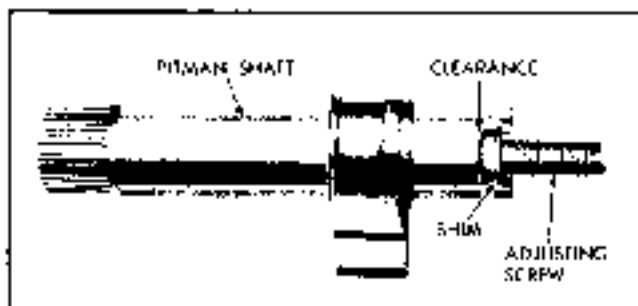

Fig. 9-41 Pitman Shaft and Adjusting Screw
4. Remove adjusting screw from shaft at end of pitman shaft. Make sure shim found on adjusting screw remains with screw (Fig. 9-41).